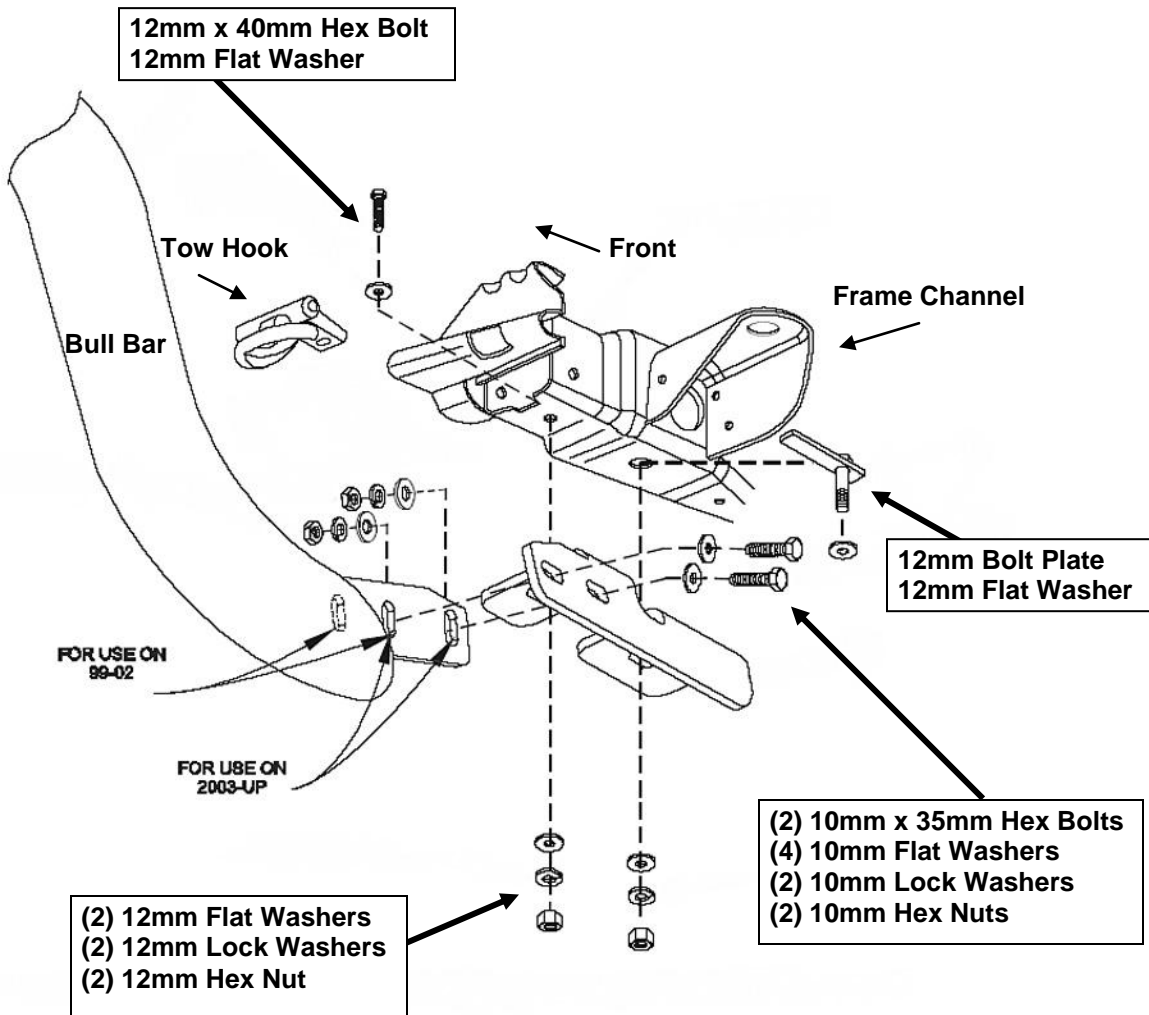

Fig 7
8. With assistance, position the Bull Bar up to the inside of the Mounting Brackets. Bolt the Bull Bar to the Mounting Brackets using (4) 10mm x 35mm Hex Bolts, (8) 10mm Flat Washers, (4) 10mm Lock Washers and (4) 10mm Hex Nuts, **(Figures 7 & 8)**.
- a. **1999-2002** Model Years: Push the Bull Bar all of the way in and line up the middle and forward holes with the (2) slots in the Brackets.
- b. **2003-2006, 2007 "Classic"**: Line up the center and rear mounting holes on the Bull Bar with the (2) slots in the Brackets.